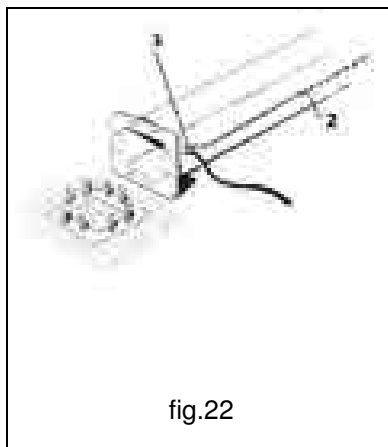

fig.22
- b. In the case of cable **1** coming from the outside, push it into the column using a suitable fairlead **3** placed at the bottom of the column, until it reaches hole **2** at the top (fig.22)